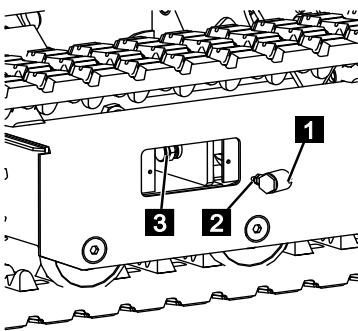

Fig. 232
4. Push the button head coupler (Fig.232/1) onto the grease tensioning cylinder (Fig.232/2) with the grease nipple (Fig.232/2) facing forwards.